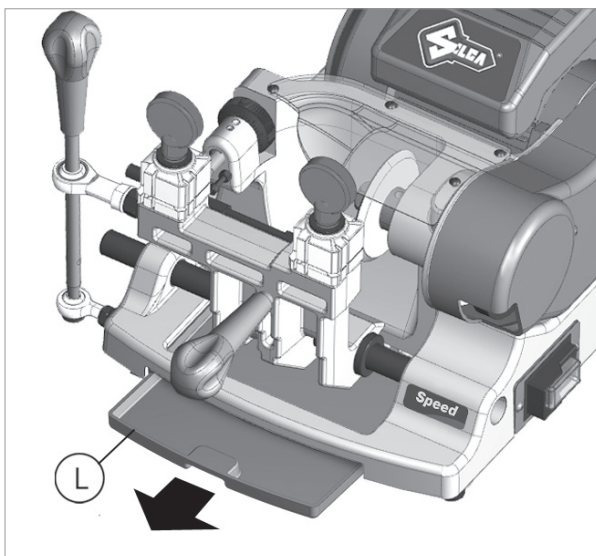

Fig. 35
- 2) Remove the swarf tray (L) (Fig. 35).